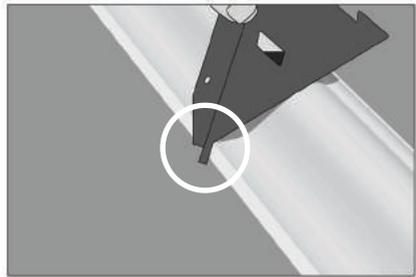
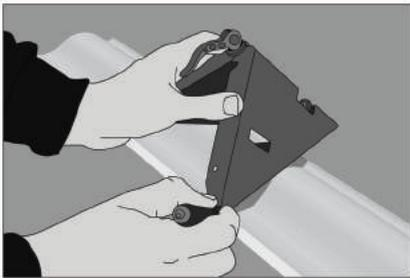
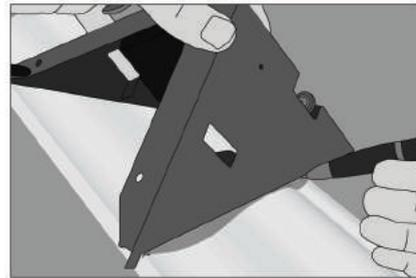

fig 11
fig 12
fig 13
- For an external mitre, place the Triglig onto the coving with the locating tabs seated securely over the wall edge of the coving (**fig 11**). Mark where the arms touch the coving at BOTH (in relation to the locating tabs) the wall (**fig 12**) and ceiling edges (**fig 13**) (Refer to piece diagram 1 if unsure which side to mark).